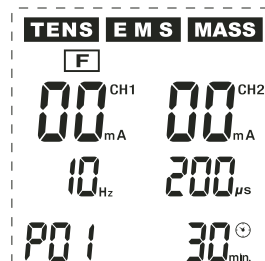

Fig. 9
- ⑱ **(F)**: Special programmes for the **foot** (see Fig. 9)